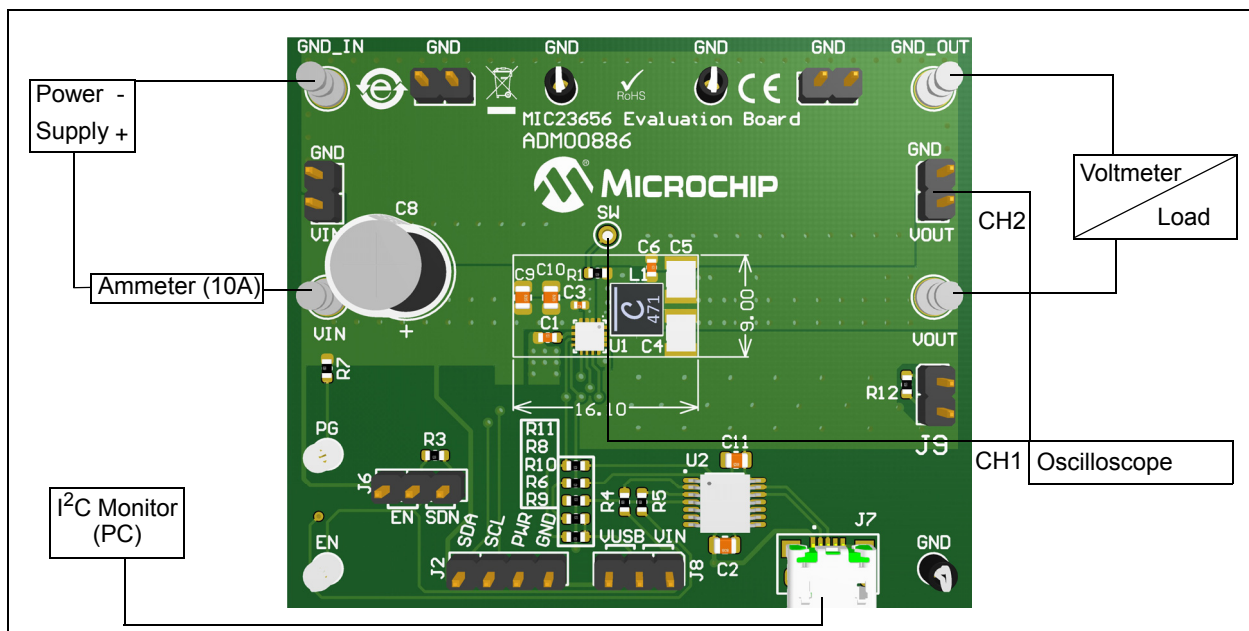

FIGURE 2-2: MIC23656 Evaluation Board Test Setup.
1. Connect the PC, input supply, voltmeter, ammeter and load as shown in Figure 2-2. Set the ammeter on a 10A range.
When testing the MIC23656 device at high-load currents or when checking the over-current protection behavior, it may be necessary to remove the series ammeter shown in Figure 2-2 or to replace it with a very low-value shunt resistor. This is because the internal resistance of many Digital Multimeters (DMMs) used for current measurements is generally too high.